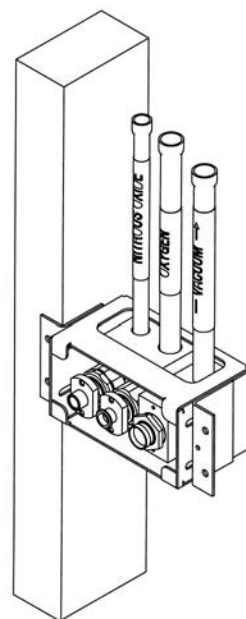

Figure 1
- 1. LOCATION:** Select appropriate location for mounting station to a stud prior to installing drywall or wall board. Secure bracket (left or right side) to stud. (Figure 1)